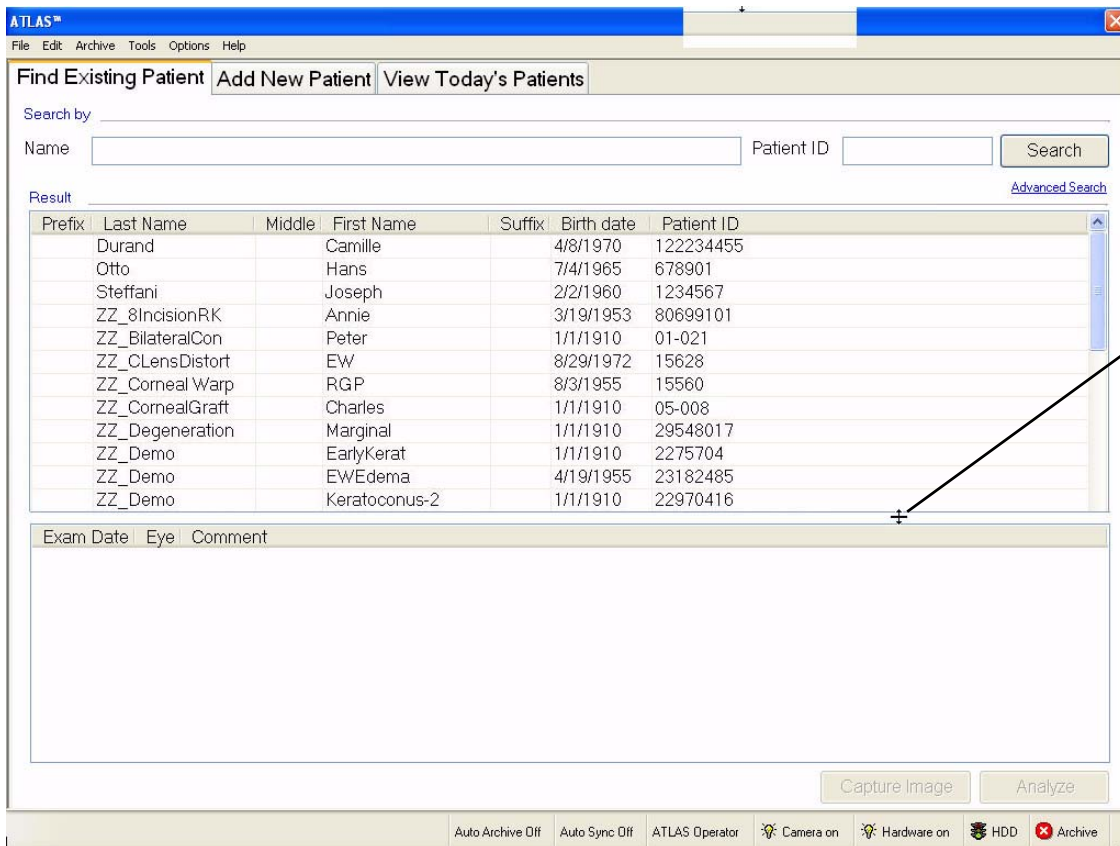

Figure 9-6 Patient Selection Window—Default Tab: Find Existing Patient
1. To search for patients, use the Find Existing Patient tab of the PATIENT SELECTION WINDOW (Figure 9-6), which appears automatically after login.